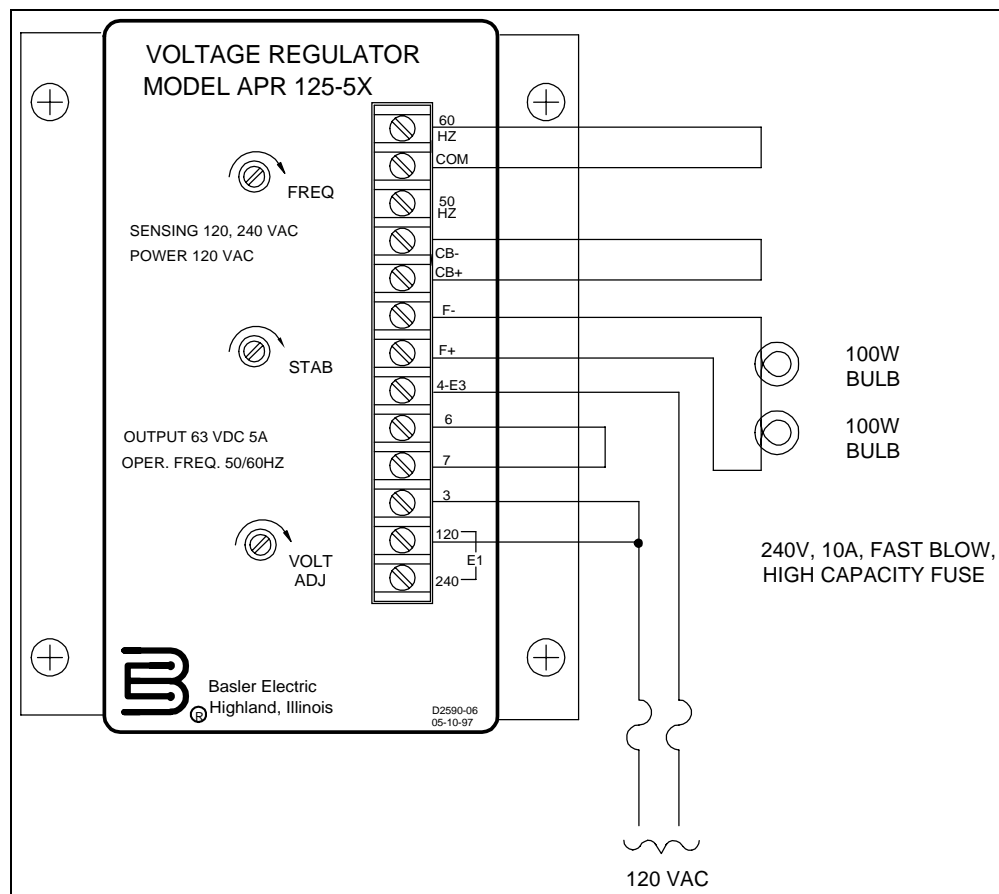

Figure 3-1. Operational Test.
To operationally test any APR 125-5X, refer to Figure 3-1 and perform the following steps in the order given:
- a. Connect the voltage regulator as shown by Figure 3-1 and apply 120 Vac as shown.